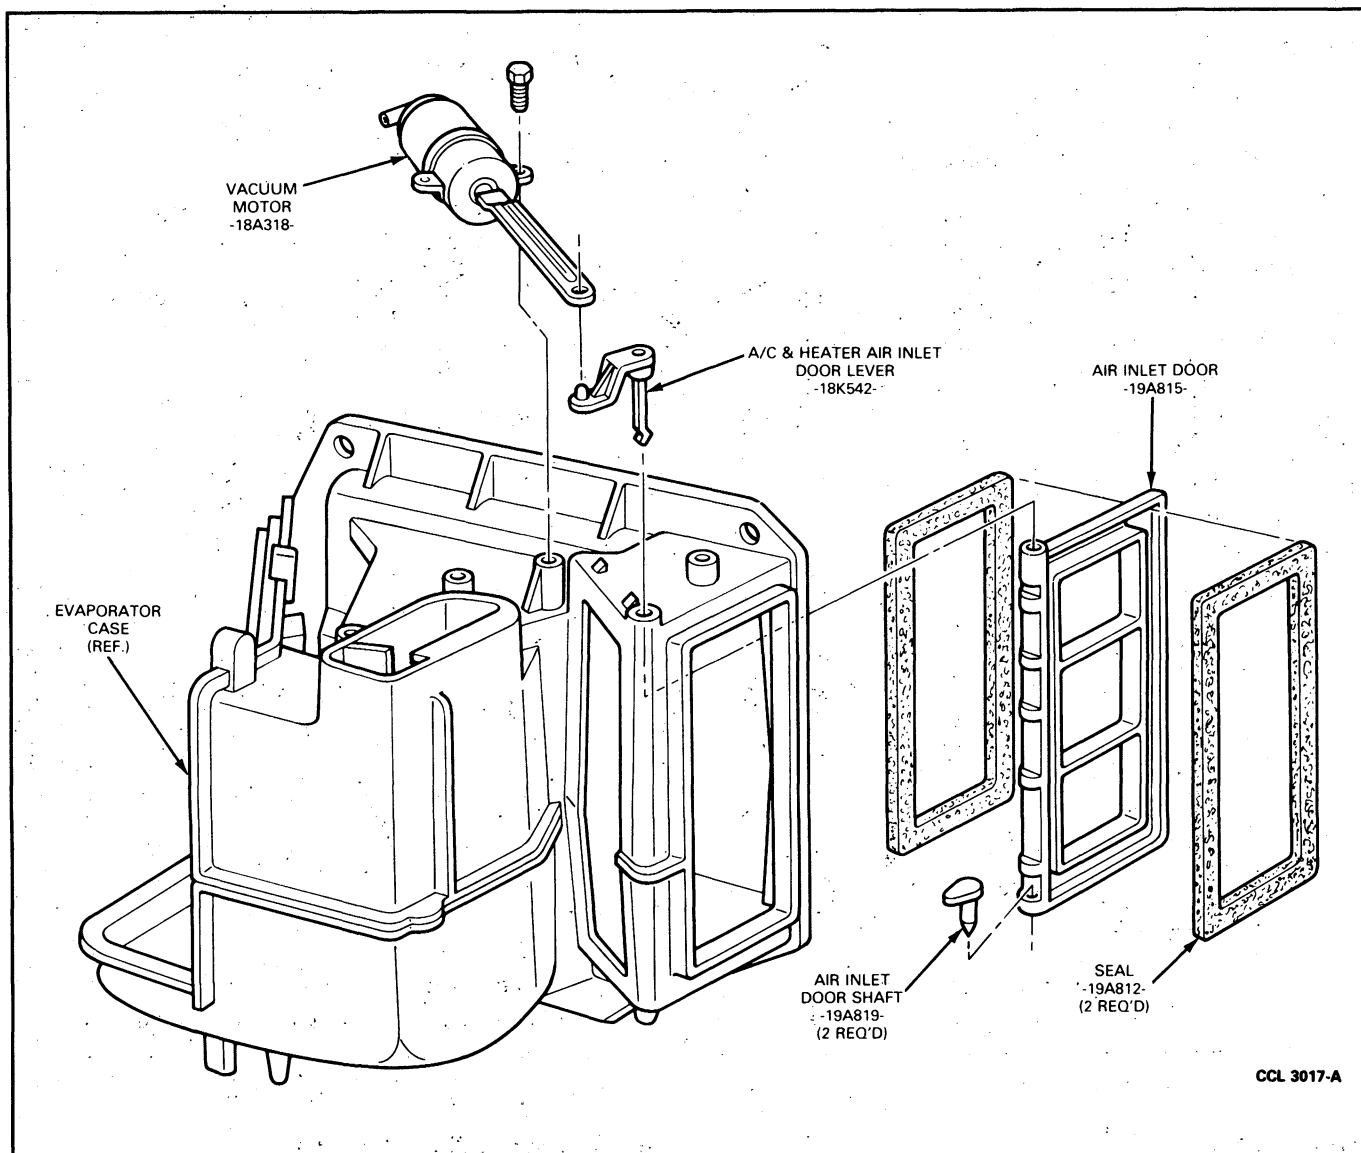

FIG. 24 Outside/Recirc Air Door Vacuum Motor
1. Remove two screws retaining motor to evaporator-heater housing (Fig. 24).